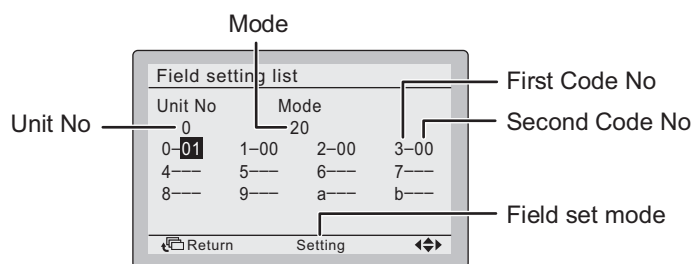

Fig. 30
- When in the field set mode, select mode No. 12, then set the first code (switch) No. to “1”. Then set second code (position) No. to “01” for FORCED OFF and “02” for ON/OFF OPERATION. (FORCED OFF at factory set) **(Refer to Fig. 30)**